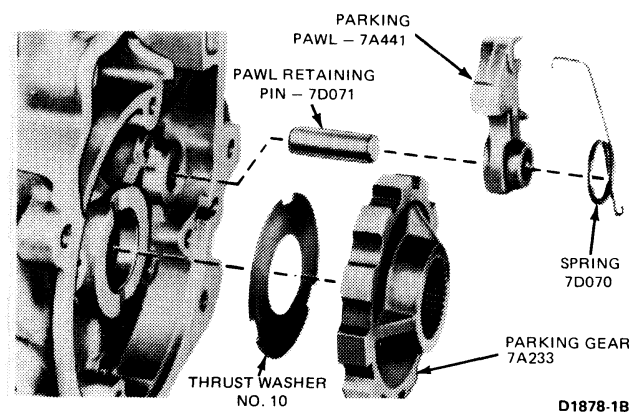

FIG. 30 Parking Pawl, Return Spring Retaining Pin and Gear
24. Remove the parking pawl return spring, pawl, and pawl retaining pin from the case (Fig. 30).
25. Remove the parking gear and thrust washer No. 10 (Fig. 30) from the case.